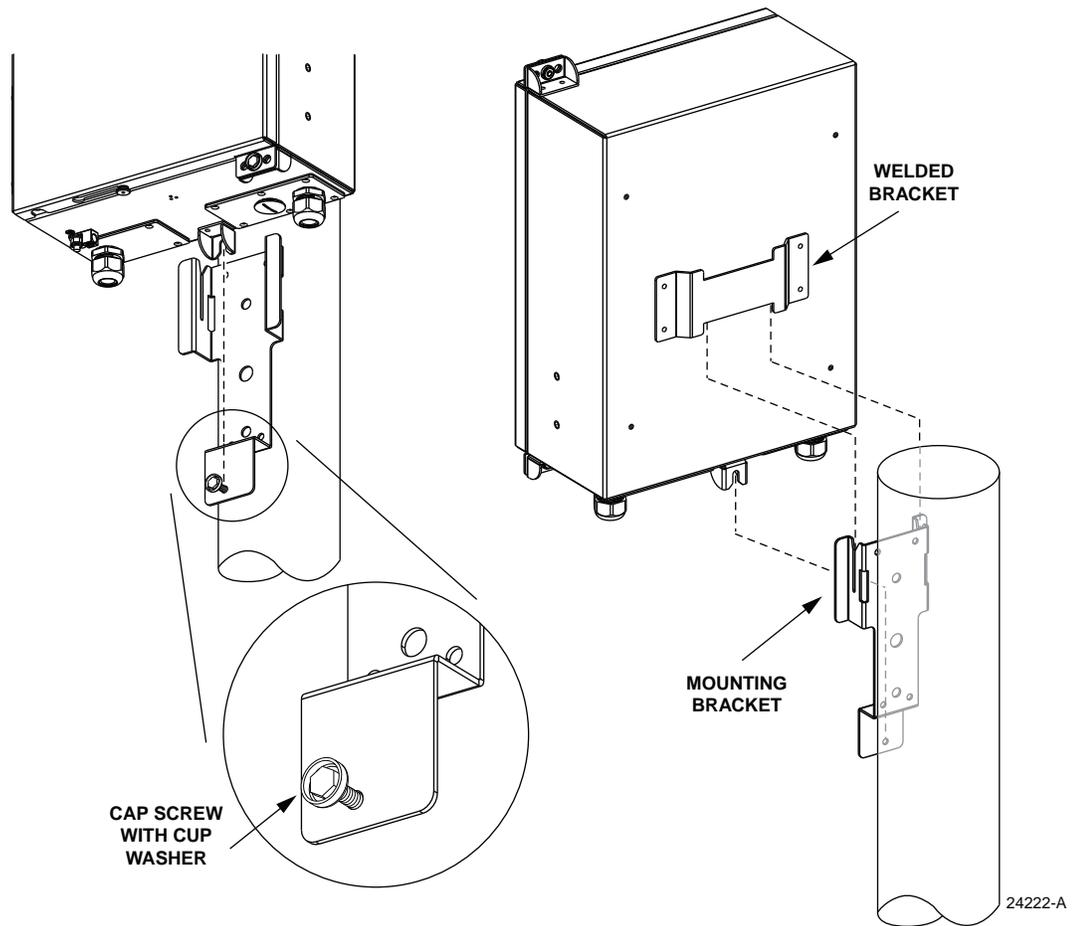

Figure 5. Installing Cabinet on Pole-Mounted Bracket
6. Hang the cabinet from the installed mounting bracket. The welded bracket on the back of the cabinet, shown in Figure 5, fits into the two slots at the top of the mounting bracket. The partially installed cap screw at the bottom of the mounting bracket fits into the slotted tab at the bottom of the cabinet.